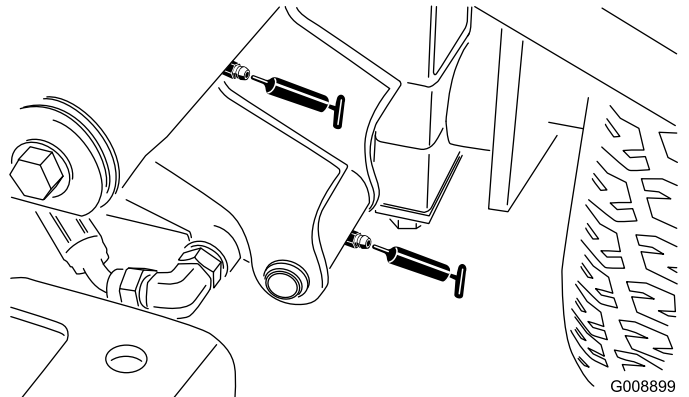

Figure 55
- Left front lift arm pivot and lift cylinder (2) (Figure 55)